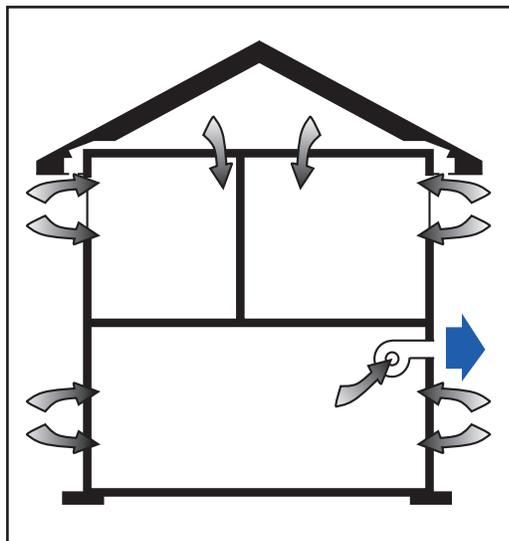

Fig. F-15: Exhaust-only system
- **Exhaust-only.** Exhaust-only systems (see Figure F-15) employ a centrally located exhaust fan and ducted exhaust pickups to remove air from moisture/pollutant-producing areas in the house. There are a variety of exhaust-only systems. One of the most popular and effective is the centrifugal in-line fan. The unit is installed in the basement or attic for extremely quiet operation. Two or three stale air “pick-ups” are placed in bathrooms and the general living area. Another type is the multiport exhaust-only system. These systems have one exhaust port and three or four ports that are ducted throughout the house to pick up stale air. Most operate at two or more speeds. Several manufacturers sell complete kits with all the ducts and accessories. These may cost a bit more, but the kits simplify installation. As these systems exhaust stale air, the house becomes negatively pressured. Negative pressure induces fresh air into the house through leaks around doors and windows, sill areas, and outlets. When other exhaust appliances are operating at the same time (dryer, central vacuum, and Jenn®-air type ranges), drafts and cold spots develop that may increase your heating bill.